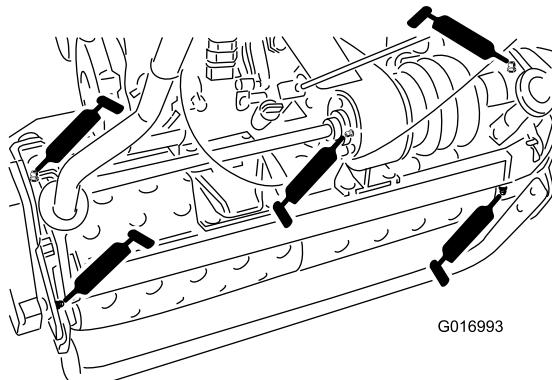

Figure 25
- 2 on the drum axles (Figure 25)
- 3 on the differential (Figure 25)